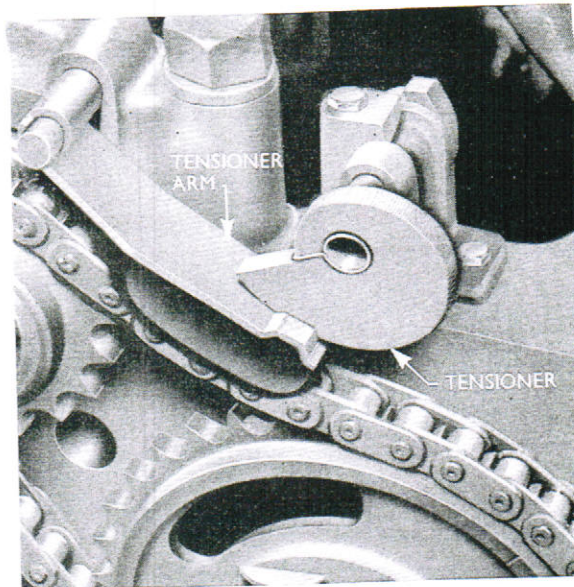

Fig. 10
10. **Remove the timing chain tensioner.** Unscrew the two bolts, then remove the bracket. The tensioner arm may then be detached from the pivot pin (see Fig. 10).